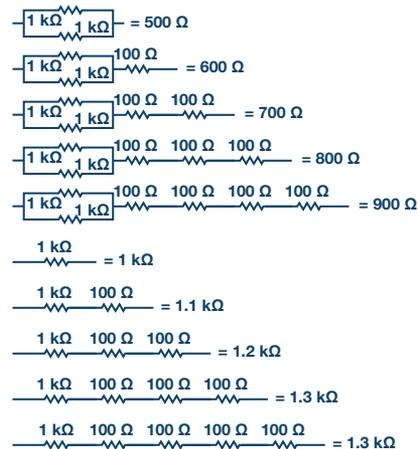

Figure 8. R_L configurations.
- $R_L =$ combinations of 1 k Ω and 100 Ω resistors (Figure 8)
- ▶ c) To find the value of R_L for which maximum power is transferred, vary the load resistances by constructing series/parallel combinations of 1 k Ω and 100 Ω for R_L between 500 Ω to 1400 Ω in 100 Ω steps, as shown in Figure 8. For each value of R_L , write down V_L .